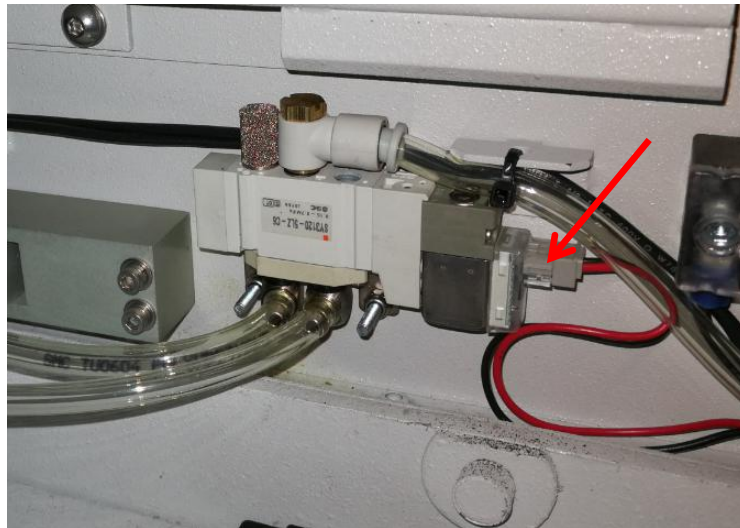

Figure 1
4. Disconnect Input cable form Outer Barrier Solenoid Valve as Figure 1.